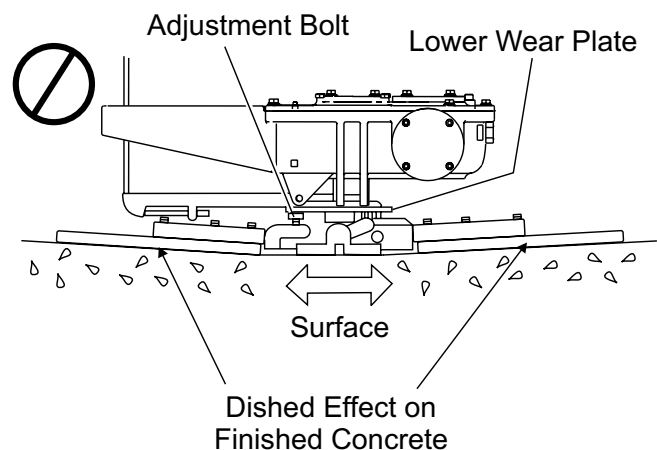

Figure 41. Incorrect Spider Plate Alignment
2. Pitch the blades as flat as possible. The adjustment bolts should all barely make contact with the lower wear plate on the spider. If one is not making contact, adjustment will be necessary (Figure 41).
Figure 41 illustrates incorrect alignment, worn spider bushings, or bent trowel arms. Check that the adjustment bolt is barely touching (0.10" max. clearance) the lower wear plate. All alignment bolts should be spaced the same distance from the lower wear plate.